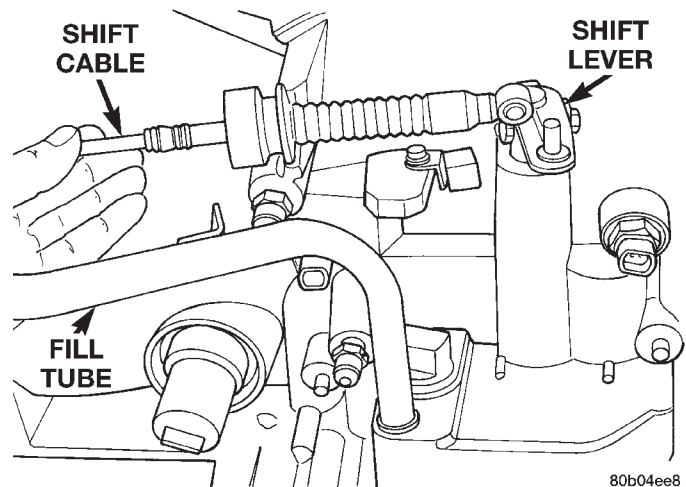

Fig. 19 Cable Removal
(8) From underhood side of dash panel, unseat grommet and pull cable from interior of vehicle.
(9) Raise vehicle on hoist and unbolt fill tube bracket. Rotate fill tube to gain access to shift cable clamp.
(10) Loosen shift cable clamp on transaxle.
(11) Disconnect shifter cable from shift lever assembly at transaxle (Fig. 19).